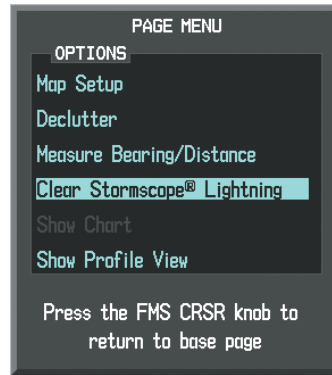

Figure 6-119 Navigation Map Page Options Menu
- 2) Select 'Clear Stormscope® Lightning' (Figure 6-119).